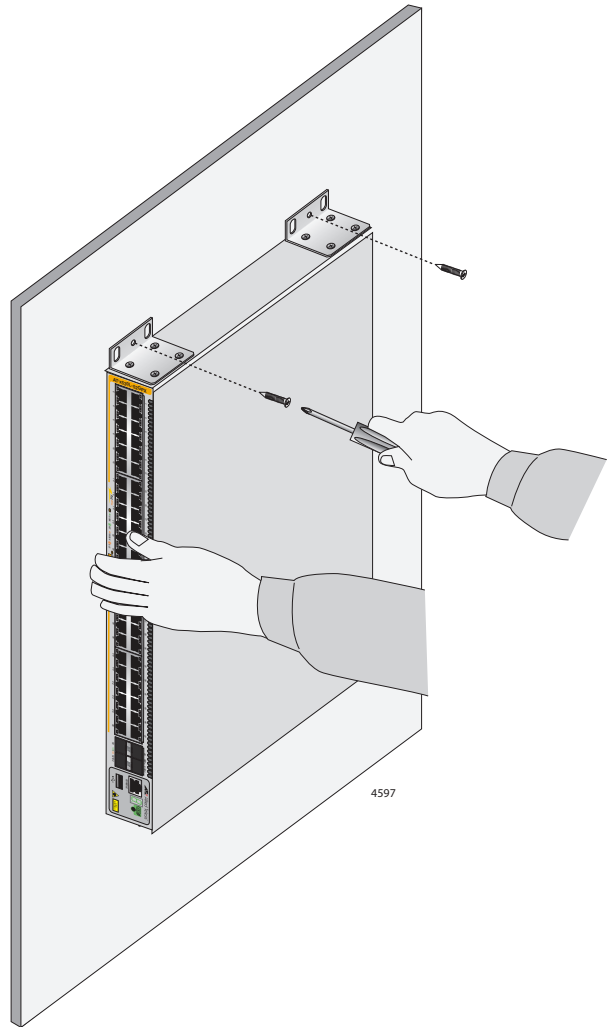

Figure 79. Installing the Switch on a Concrete Wall
7. Have another person hold the switch at the selected wall location while you secure it to the wall with the M4x32mm screws provided. Refer to Figure 79.